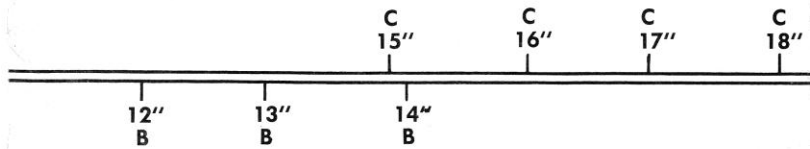
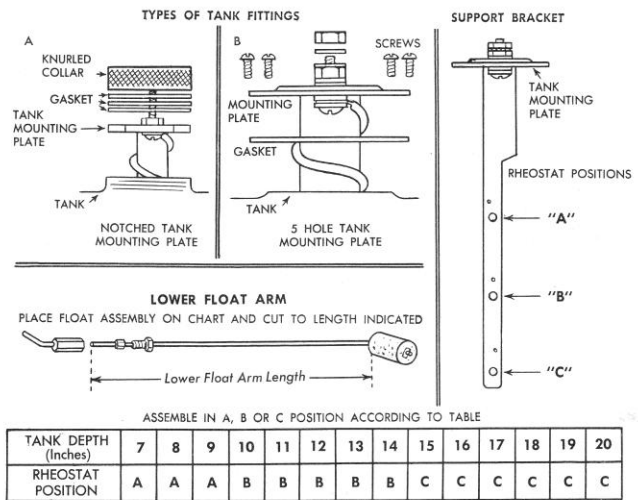

FIG. 3
Fig. 1
assembly in the proper position on the support bracket and by adjusting the lower float arm to the correct length. The chart of Figure 1 shows the correct rheostat position for each tank depth.
a. *Rheostat Location:* The rheostat is factory-assembled at the center position (B) on the support bracket and may be relocated as follows: Remove the nut and washer from the threaded stud. Locate the rheostat in the proper position making sure that the locating pin on the back side of the phenolic board is positioned in the small hole in the support bracket. (Wrap the surplus connecting wire around the bracket). Replace the washer and nut. Tighten the nut securely.
b. *Lower Float Arm Length:* This length is measured from the center of the float as shown in Figure 1. Cut the float arm to the correct length as determined from the chart of Figure 3 and remove all burrs from the cut end. Place the nut and sleeve on the float arm as shown and insert the arm, sleeve and nut into the connector. Hold the connector firmly and tighten the nut.
c. Remove the threaded cap, glass, gaskets and mechanical float mechanism from the fuel tank. Insert the float assembly into the tank with the float arm pointing along the tank length. It may be necessary to reposition the mounting plate with respect to the support bracket. This can be accomplished by loosening the hex nut (See Fig. 1) and rotating the